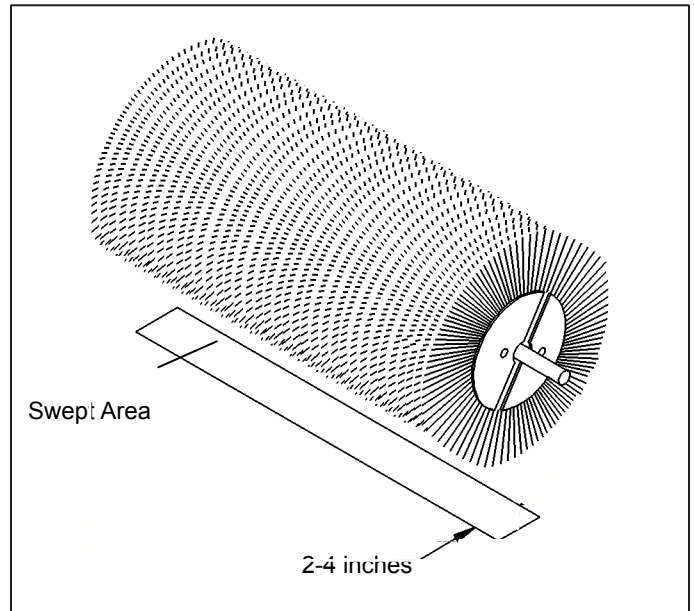

figure 1
4. Raise the sweeper and back away; switch off the engine and remove the key from the prime mover. The brush pattern left in the dust should be 2-4 inches wide, running the length of the brush. (figure 1)